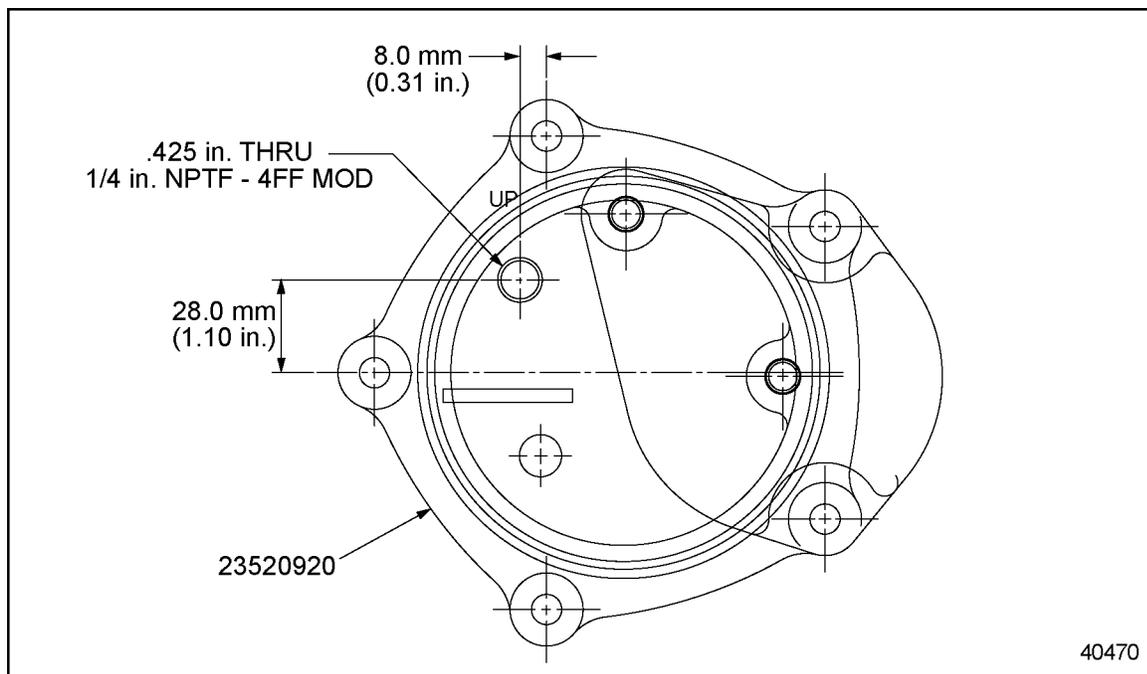

Figure 3 Location of Drilled and Tapped Vent Line Hole in Auto Tensioner Mounting Plate
7. Drill a .425 in. diameter hole on the left side of the mounting plate and thread with a 1/4 in. NPTF - 4FF tap. See Figure 3 for hole location.